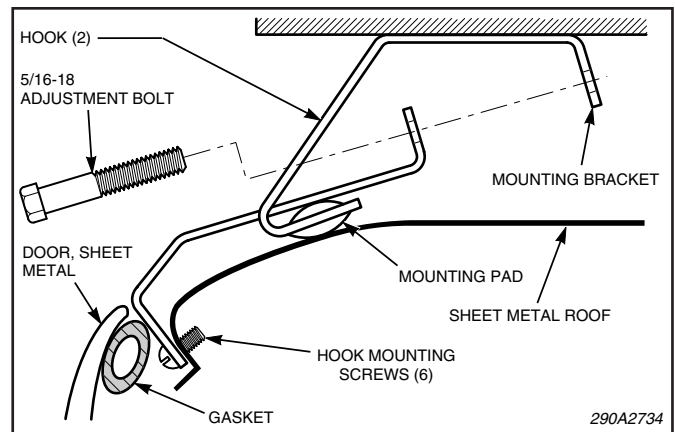

Figure 1.
- Drill three (3) .147" diameter holes (#26 drill bit) at the drill position marks.
- See figure 1. Apply a silicone sealant around the holes before attaching the hook. Secure the hook using three #10 thread-forming sheet metal screws. Assemble the hook on the mounting bracket using the appropriate 5/16-18 hex head bolt (finger-tight only).